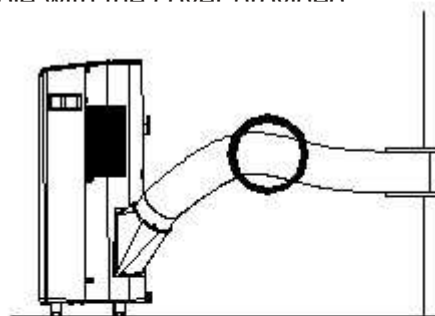

FIG.8
- Avoid kinks and bends in the exhaust hose as this will cause expelled moist air to build up causing the unit to overheat and shut down. Fig 8 & 9 show correct position